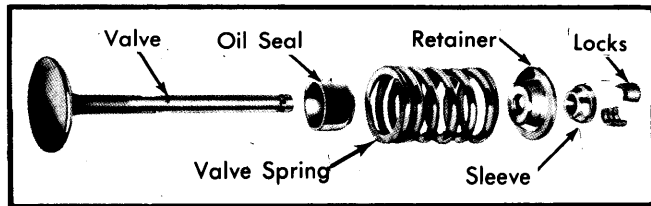

Fig. 3 Exploded View of Valve Assembly
4) Using valve spring compressor tool (T65P-6513-A), compress valve spring and remove retainer locks, sleeve, spring retainer and valve spring. Remove valve stem seal. Do not remove air pressure as this will allow valve to fall into cylinder if piston has been forced to bottom of cylinder. See Fig. 3.